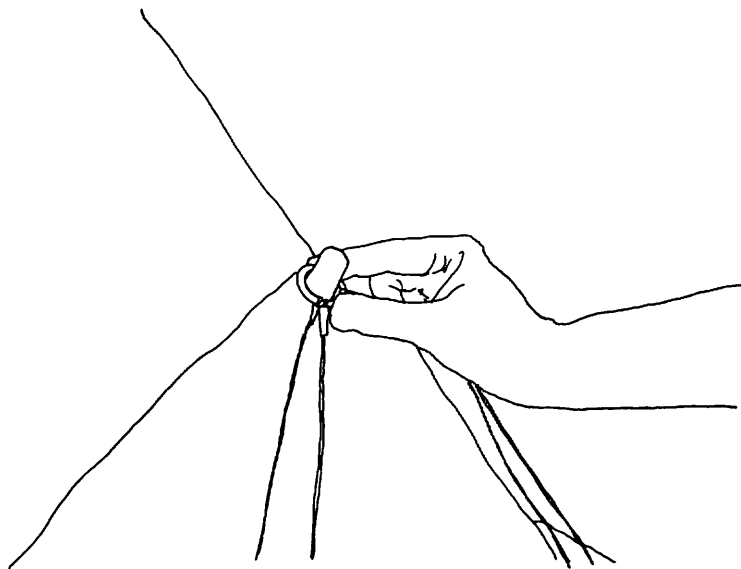

Fig 63
7) Detach the bridle ring from the snap hook. Remove the kingpost from the base by lifting straight up, and place the bridle ring over the kingpost base. (Fig 63) Install the protective covers over both ends of the kingpost, and over the kingpost base.